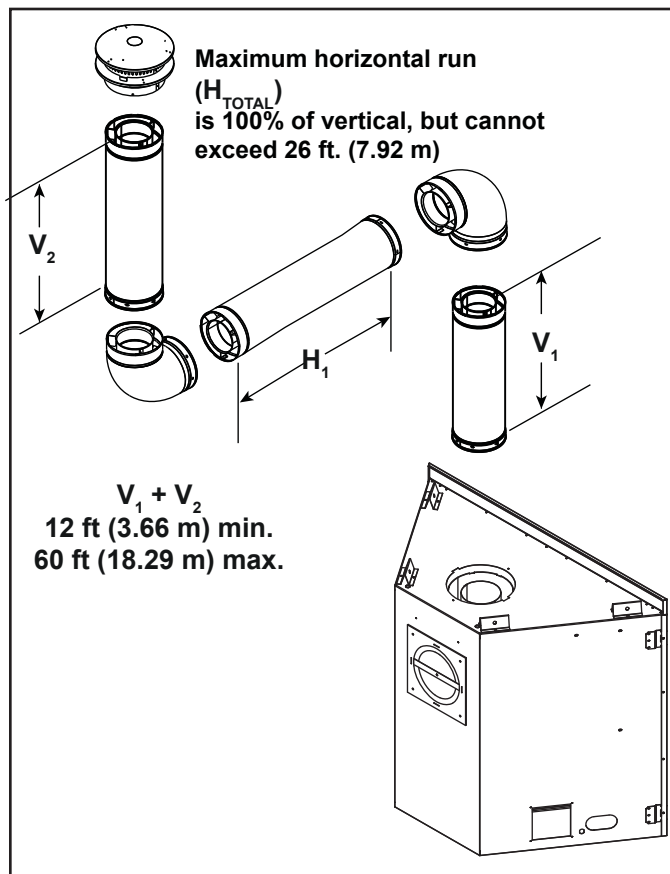

Figure 4.14
- A maximum of three 90° elbows (or six 45° elbows) may be used in any vent configuration. Some elbows may be installed horizontally. See Figure 4.14.